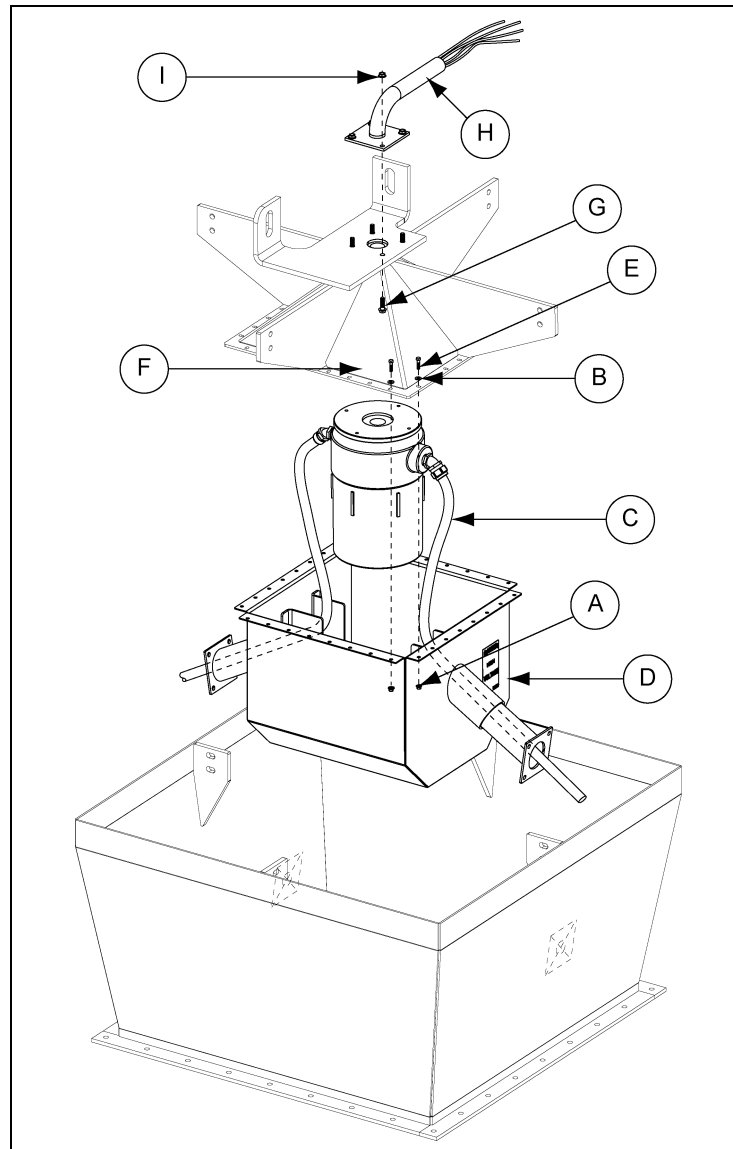

Figure 4F
1. Guide the lower flex conduit (C) through the collector ring shield (D). *(See Figure 4F.)*
2. Install the cross brace and collector ring assembly (F) to the collector ring shield (D) and secure with hex bolts (E), flat washers (B) and hex nuts (A). Tighten to specifications. *(See Table on Page 21.)*
3. Install the pivot tube (H) to the top of the cross brace and collector ring assembly (F) and secure with hex bolts (G) and nuts (I). Tighten to specifications. *(See Table on Page 21.)*